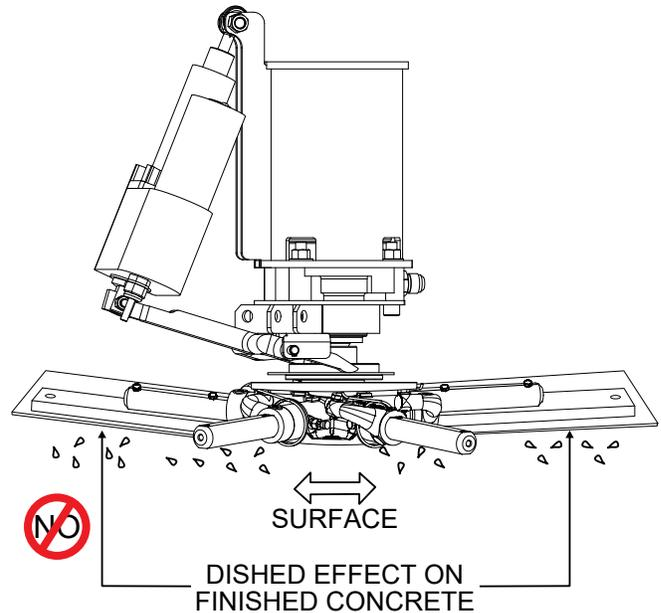

Figure 51. Incorrect Spider Plate Alignment
3. If any adjustment bolts are not making contact with the lower wear plate, adjustment will be necessary. Figure 51 illustrates incorrect alignment, worn spider bushings, or bent trowel arms.